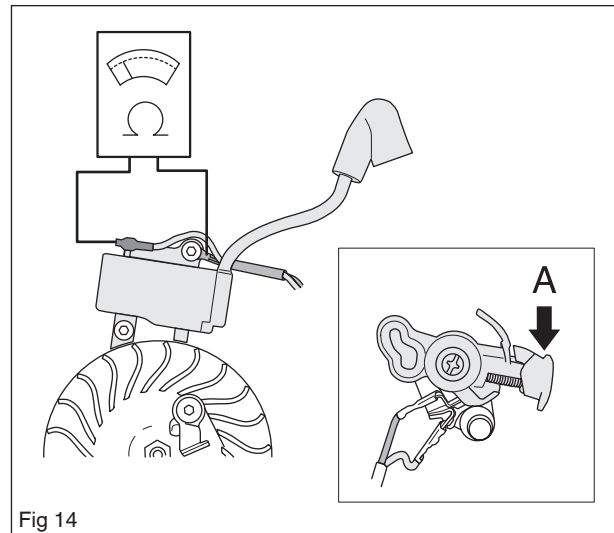
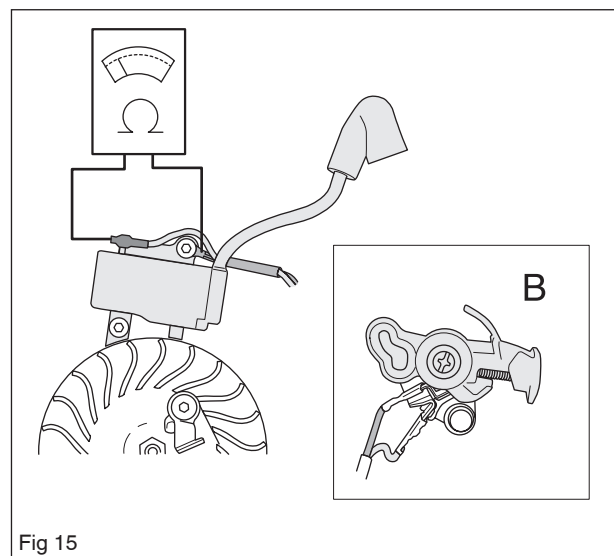

Fig 14
Fig 15
Cut off the starlock washer and pull out the control from the shaft on the filter holder. (see figure 14)
Measure the resistance by connecting a multimeter to the ignition coil. **NOTE!** The switch must be in the “on” (A) position to give the correct reading (see figure 14).
The stop switch is in the on position when the button is held down (A) (see figure 14) and in the off-position the button is neutral (B) (see figure 15).